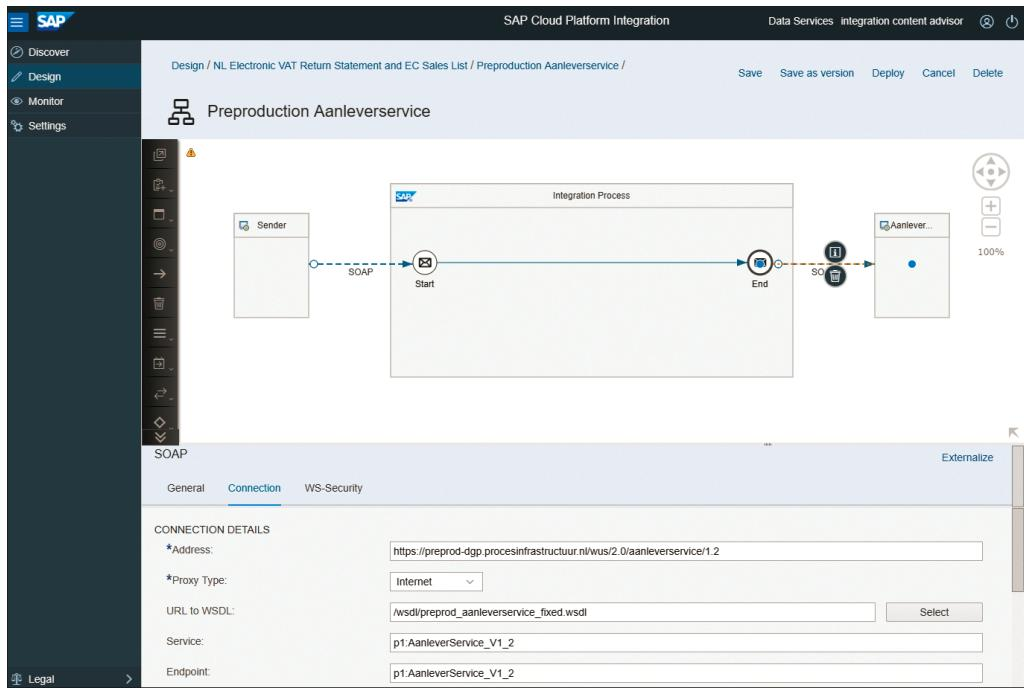

Figure 3.17 Adding Different Items to an Existing Integration Flow Template
5. For most integration flows, connectivity details on the sender and receiver side need to be changed. Figure 3.17 for instance, shows that the SOAP receiver connection details can be filled in by selecting the respective connector and specifying the properties in the **Connection** tab.
6. After you've made the desired changes, you can click on the **Save** button on the top-right corner of the page (see Figure 3.17). Alternatively, click **Save as version** to save a new version of the integration flow. You're then asked to provide a comment for the new version. Note that the version number is also automatically incremented.
- After saving your work in the previous step, you can now choose to deploy the integration flow on the tenant by using the **Deploy** option (see Figure 3.17). If you attempt to deploy without saving, a popup message will warn you that there are unsaved changes. You'll also be asked if you want to save and deploy at the same time.